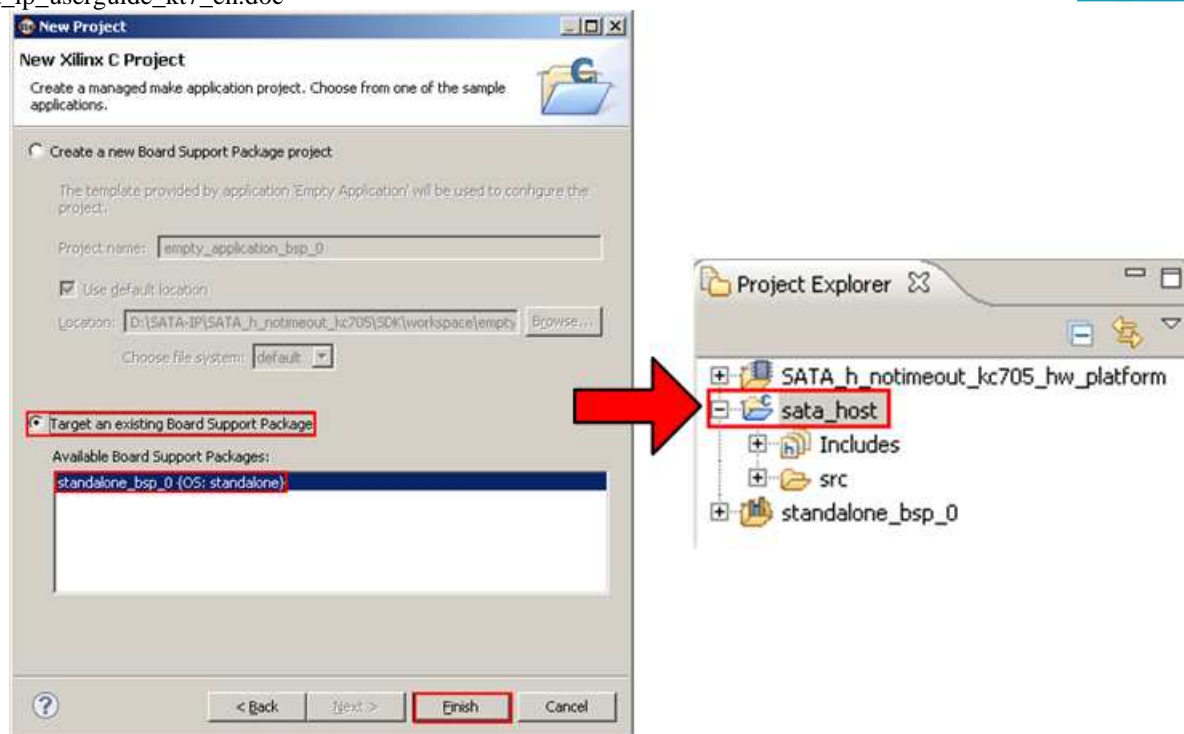

Figure 4-8 Selecting BSP for C Project
- 7) Click to select “Target an existing Board Support Package” and select “standalone_bsp_0”. After that, click “Finish” to complete setup. New project (“sata_host”) will be displayed on project explorer, as shown in Figure 4-8.